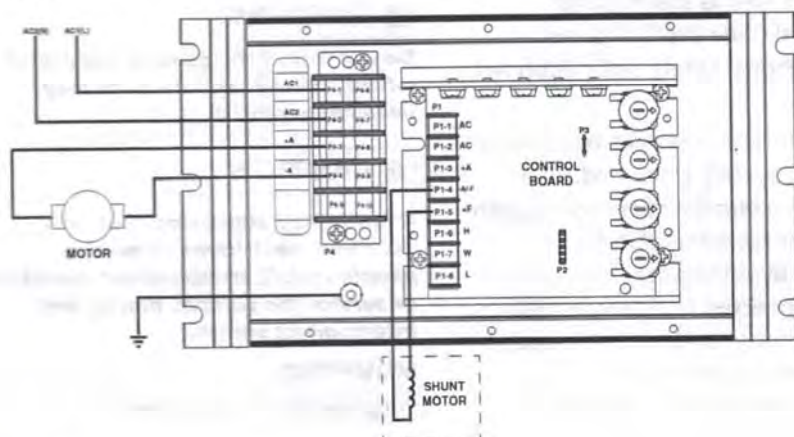

Figure 3 - Control Terminal Connectors
Make connections to the control and to the motor in accordance with the Connection Chart. Refer to Figure 3 for AC line and motor connections to the control terminal block that is located at the bottom of the control. To connect the AC line and motor, remove the front cover and support the cover (DO NOT strain the wiring).
### CONNECTION CHART (See Figure 3)
- Check all the connections at the control terminals and at the motor. Make sure that they are tight and are made according to Figure 3 and the Connection Chart.
- Turn the control ON-OFF switch to the ON position and then slowly turn the Speed Control knob clockwise (CW) while observing direction of motor rotation. If opposite direction of rotation is desired, correct by turning OFF the control and then reverse the motor armature connections.